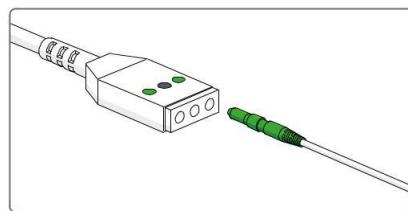

Figure 18. Connect the dressing cable to the master cable
3. Insert the green plug of the dressing cable into one of the sockets on the master cable marked with a green dot, see Figure 18. (Up to two dressing electrodes can be connected.)